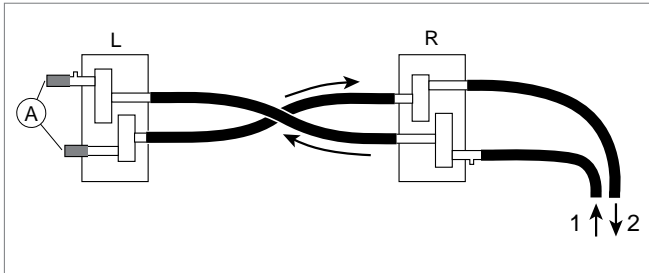

Fig. 35: Heater coolant hose connection (RH)
- right side connection Fig. 35